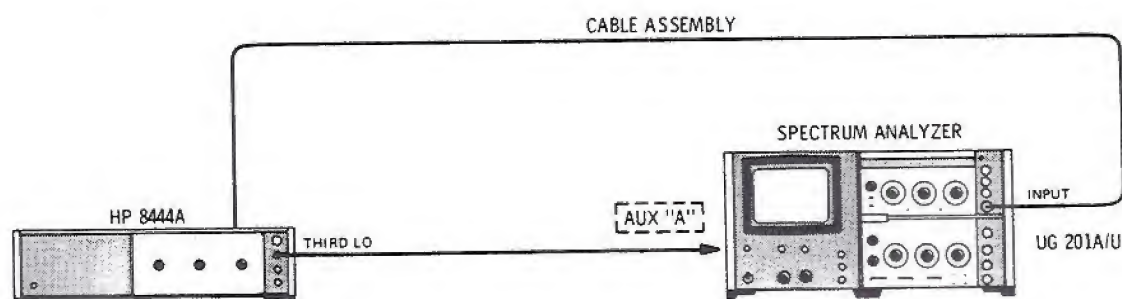

Figure 5-5. First Converter Check and Adjustment Test Setup
2. With test setup as indicated in Figure 5-5, set controls as follows: